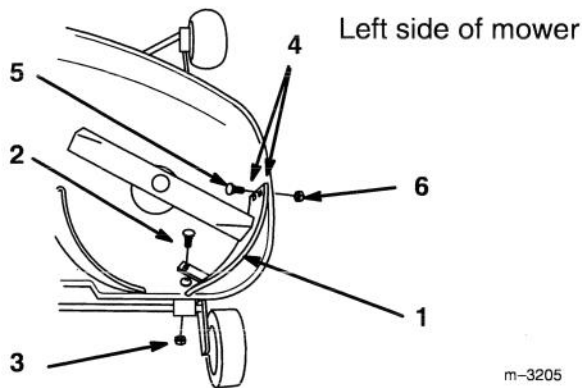

Figure 6
2. Locate rear left baffle tab over upper wheel bracket hole and install new 3/8-16 x 1" (26 mm) carriage bolt, with head on the inside. Secure with 3/8" locknut (Fig. 6).
4. Using the baffle as a guide, drill (2) 11/32" holes in the left side of the mower (Fig. 6).
5. Place (2) 5/16-18 x 1" (26 mm) carriage bolts through baffle, with heads on the inside. Secure with 5/16" locknuts (Fig. 6).